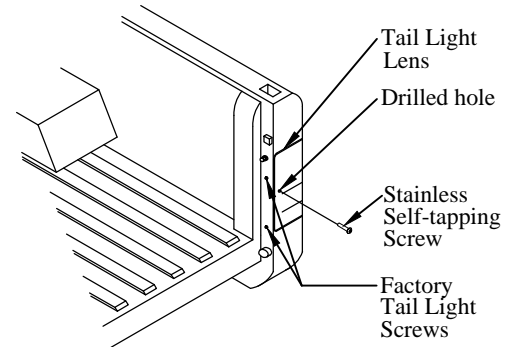

Figure 7: Tail light modification detail.
- 1. Remove** the two (2) factory tail light screws from each tail light lens (Figure 7).
- Carefully **Drill** a 9/64" hole through each tail light lens and internal sheet metal (Figure 7).
- Carefully **Drill** a 3/16" hole through each tail light lens only, for screw clearance (Figure 7).